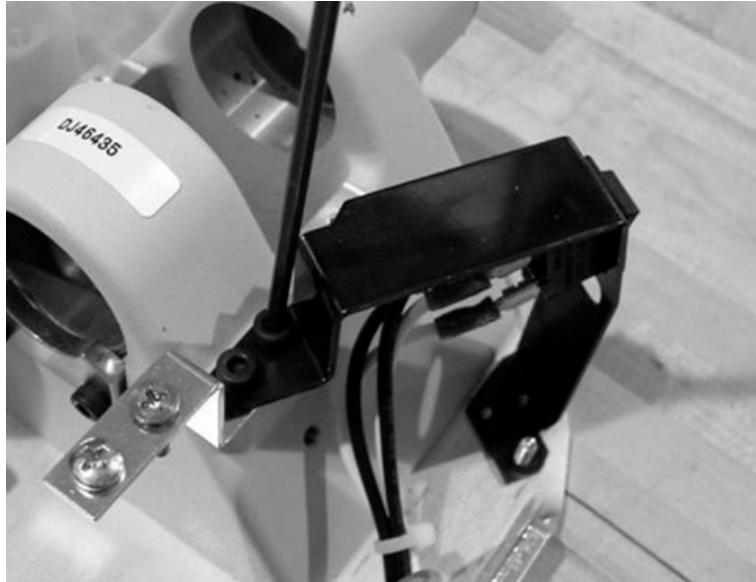

Figure 7: Removing the screws holding the Power Switch Bracket to the Casting
10. Use a 3 mm hex wrench to remove the two screws holding the Power Switch Bracket to the Casting as shown on Figure 7.